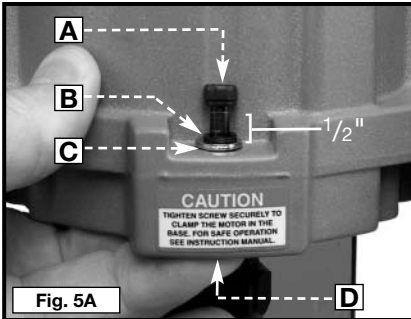
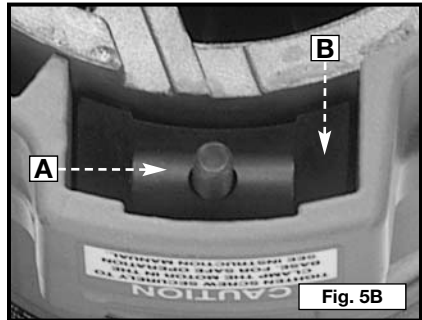

Fig. 5A
Fig. 5B
1. Support motor clamp (Fig. 5A) and loosen motor clamp screw approximately 1/2" with the hex wrench (furnished).
1. Remove clamp screw (A) Fig. 5A, flat washer (B), lock washer (C), and clamp-locking nut (A) Fig. 5B.